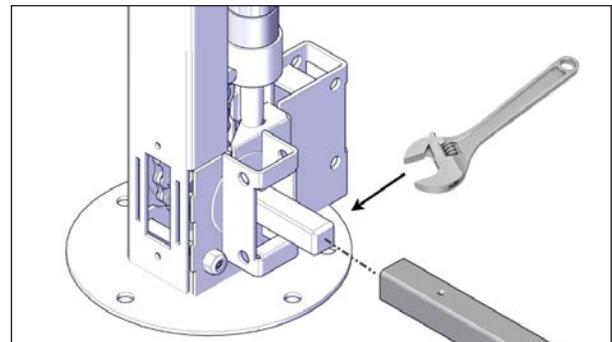

FIGURE 20: DRIVE SHAFT INSTALLATION
9. Hold the left-hand non-motor-side jack assembly upright and in line with the left drive shaft. Use a 3/4" adjustable wrench to carefully rotate the square shaft of the jack to align with the drive shaft, see Figure 20.